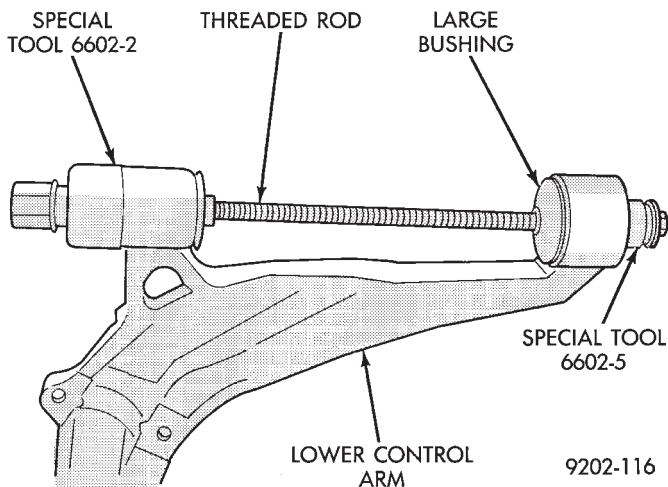

Fig. 4 Tool Assembled For Bushing Removal
(3) Install the tools assembled in step 2 above into the large bushing of the lower control arm (Fig. 4). Then assemble the remaining Special Tools, Cup 6602-2, thrust bearing, washer and nut onto the threaded rod (Fig. 4) from Bushing Remover/Installer, Special Tool 6602.
(4) Hold the long nut stationary. Using a deep socket turn the long threaded rod until the large pivot bushing is pushed out of the lower control arm.